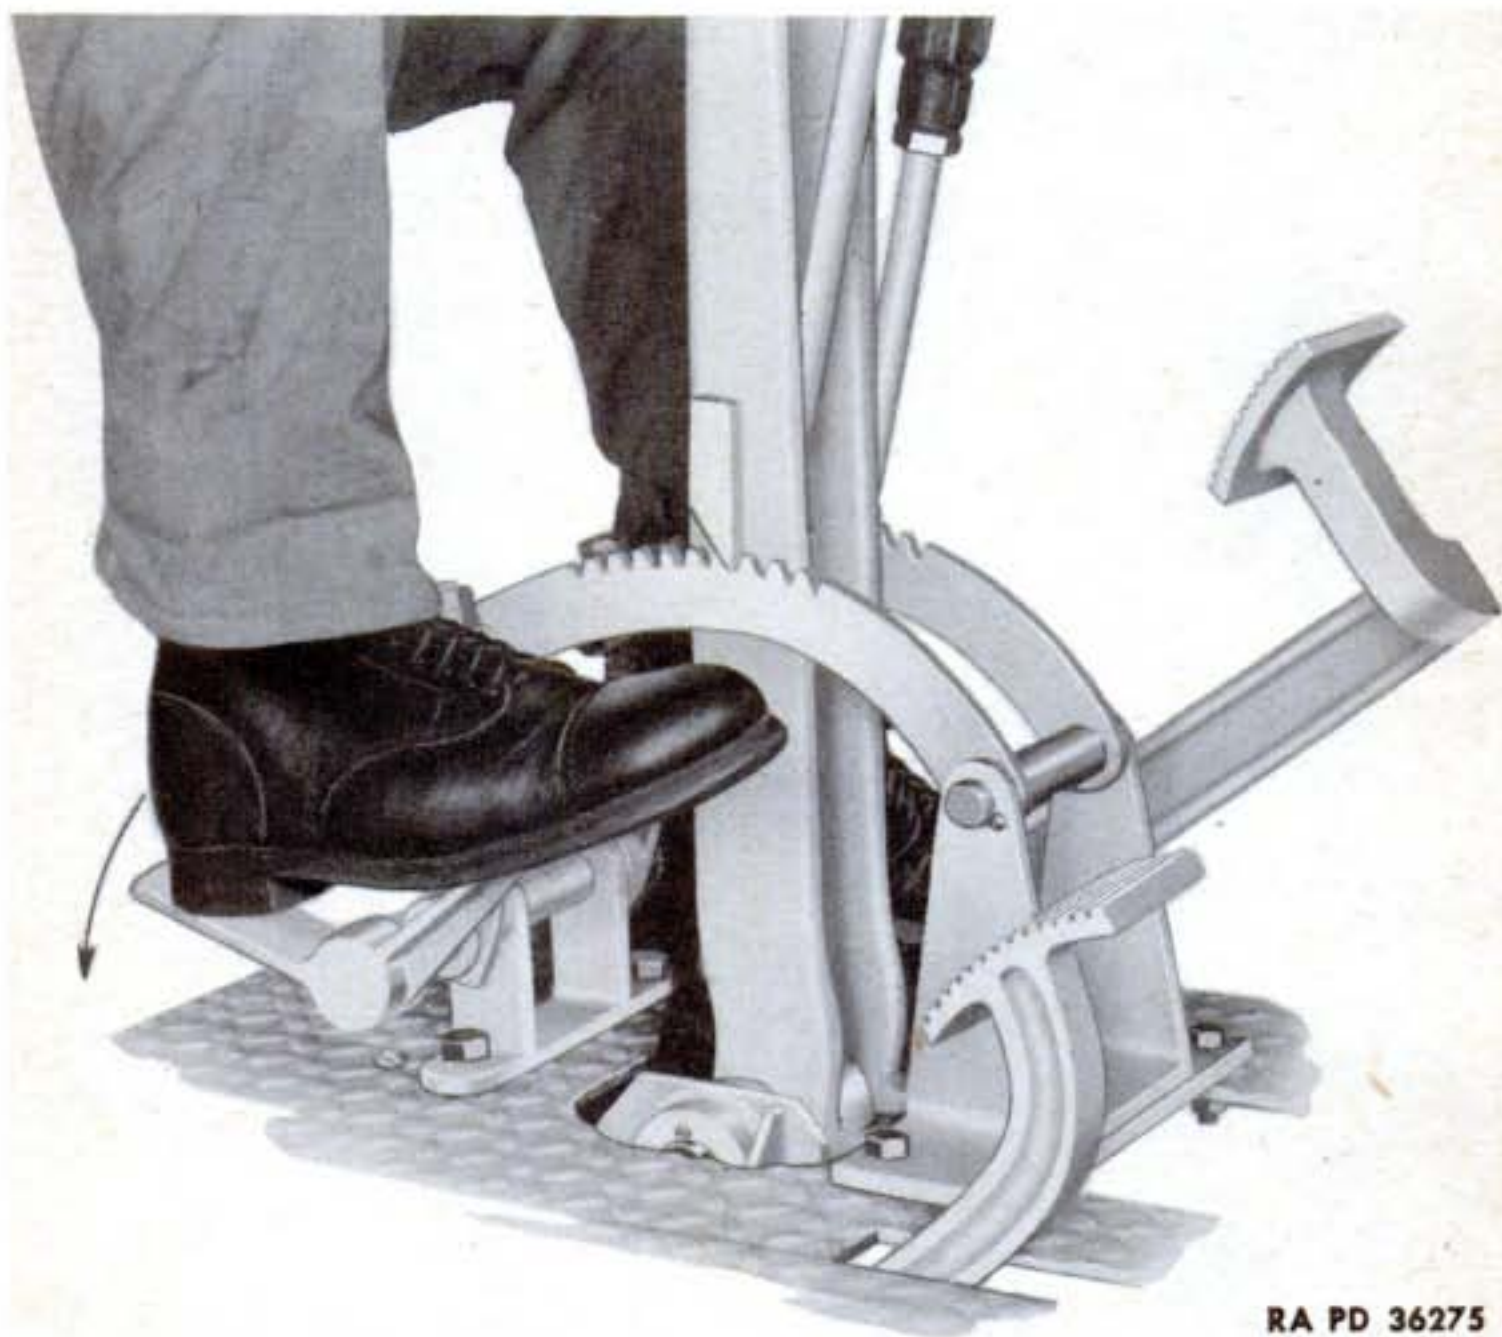

Figure 14—Locking Steering Lever Parking Brake
(1) **STEERING LEVER TYPE.** The steering brakes on late model vehicles also serve as parking brakes which are applied to hold the vehicle when it is not in motion. To apply parking brakes, press with right heel on rear pad of lock pedal on floor at right of steering levers (fig. 14), and pull back on both steering levers. To release parking